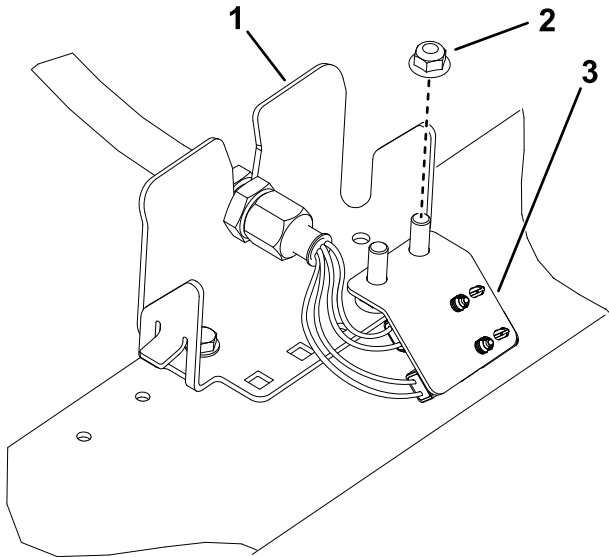
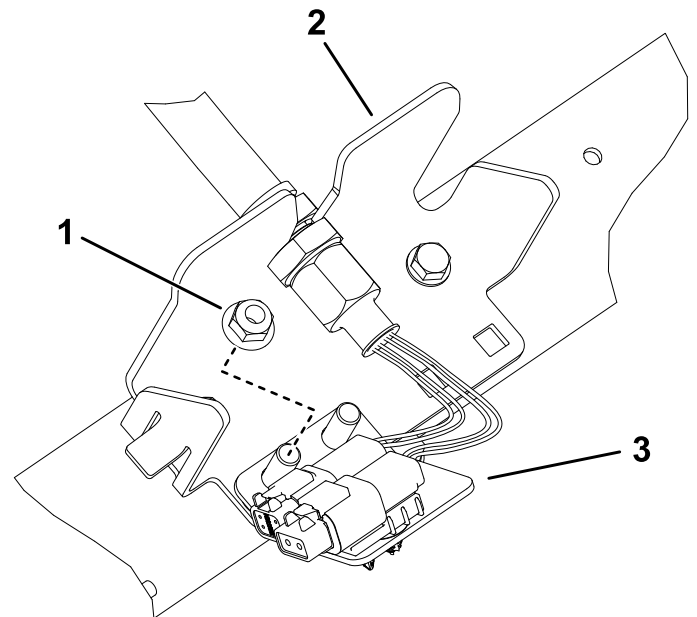

Figure 14
Figure 17
- Repeat the procedure on the remaining 4 bulkhead locations as shown in Figure 14 through Figure 17.